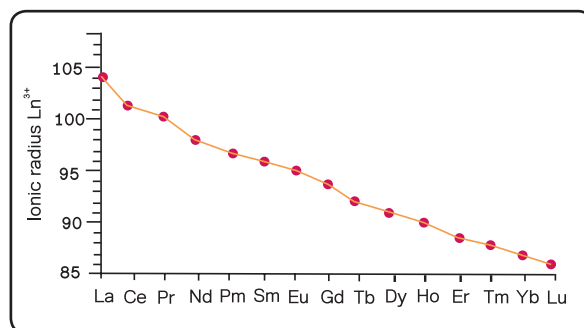

Fig. 8.6 : Ionic radii of lanthanoids in +3 oxidation state
8.12.4 Atomic and ionic radii (Lanthanoid Contraction) : As we move along the lanthanoid series, there is a decrease in atomic and ionic radii (Fig.8.6). This steady decrease in the atomic and ionic radii is called Lanthanoid contraction. As we move from one element to another the nuclear charge increases by one unit and one electron is added. The new electrons are added to the same inner 4f subshell. Thus the 4f electrons shield each other from the